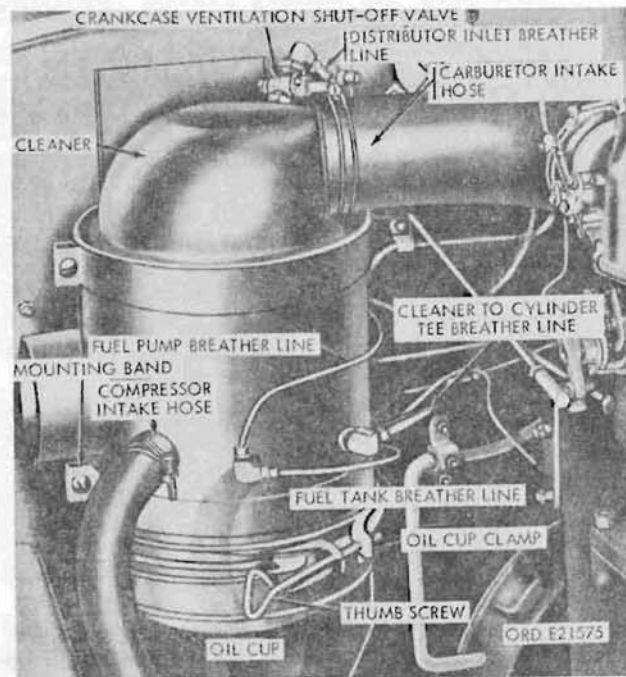
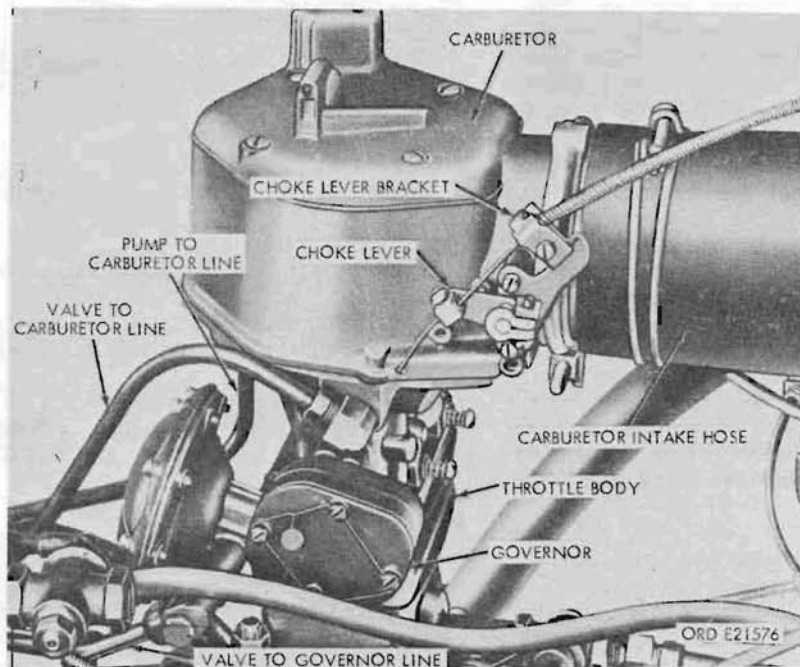

Figure 112. Air cleaner
Figure 113. Carburetor with governor disconnect points
- (2) Air cleaner. The oil-bath-type air cleaner (fig. 112) is mounted on the right side of the firewall in the engine
- (3) Carburetor. The double venturi, down-draft carburetor with governor (fig. 113) is mounted on the exhaust manifold heat-control valve housing. This carburetor, with its governor control, is designed to maintain proper fuel mixture under all operating conditions.
- (4) Carburetor controls and linkage. The carburetor controls consist of a choke control, throttle control, accelerator pedal, and linkage.
62. Air Cleaner (Fig. 112)
- (1) Support the oil cup and loosen the thumbscrew on the cup clamp until the cup can be removed from the cleaner. Remove the cup.
- (2) Loosen the hose clamps and detach the carburetor-intake hose, and compressor-intake hose from the cleaner. Disconnect the breather lines (fig. 112) from the cleaner.
- (3) Remove the screws from the mounting bands, spread bands, and remove air cleaner.
- (1) Place the air cleaner body in position within the mounting bands and position it so that the air intake port on the side faces outward at right angles to the truck side. Install the band-clamping screws and tighten.
- (2) Install the carburetor-intake hose on the air cleaner top outlet, and tighten the hose clamp.
- (3) Remove the fittings from the old air cleaner and install in the same relative position on the new cleaner. Connect the breather lines (fig. 112). Connect the compressor-intake hose, and tighten the hose clamp.
- (4) Make sure the oil cup gasket is in good condition and properly positioned. Fill the air-cleaner cup with engine oil to the level indicated. Position it under air cleaner, and raise to contact with the air cleaner body. Support the cup and tighten the clamp.
a. Removal (Fig. 113).
- (1) Loosen the hose clamp holding the carburetor-intake hose to the carburetor, and remove the hose from the carburetor.
- (2) Disconnect the throttle control rod from the carburetor-throttle lever, and the choke control (par. 65) from the carburetor.
- (2) Removal. Loosen the clamp screws in the choke lever and the choke lever bracket (fig. 113), and pull the control free. Remove the nut on the reverse side of the instrument panel, holding the control to the panel, and pull the choke control out through the panel.
- (3) Installation. Insert the choke control through the instrument panel, and install the nut and lockwasher holding the control to the panel. Position the control so that the lettering on the control knob is horizontal, and tighten the nut. Pass the control through the dash panel and secure to the choke lever bracket and the choke lever (fig. 113). Check the choke control adjustment ((1) above).
- (4) Repair. Straighten or replace any broken or damaged parts, as necessary.